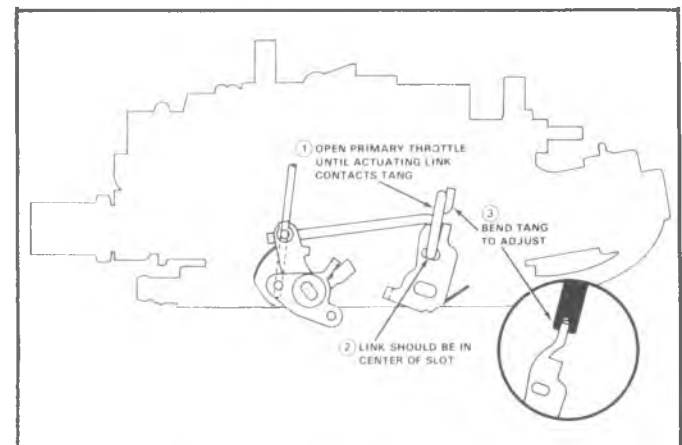

Fig. 55—Secondary Opening Adjustment
**SECONDARY OPENING ADJUSTMENT (Fig. 55)**